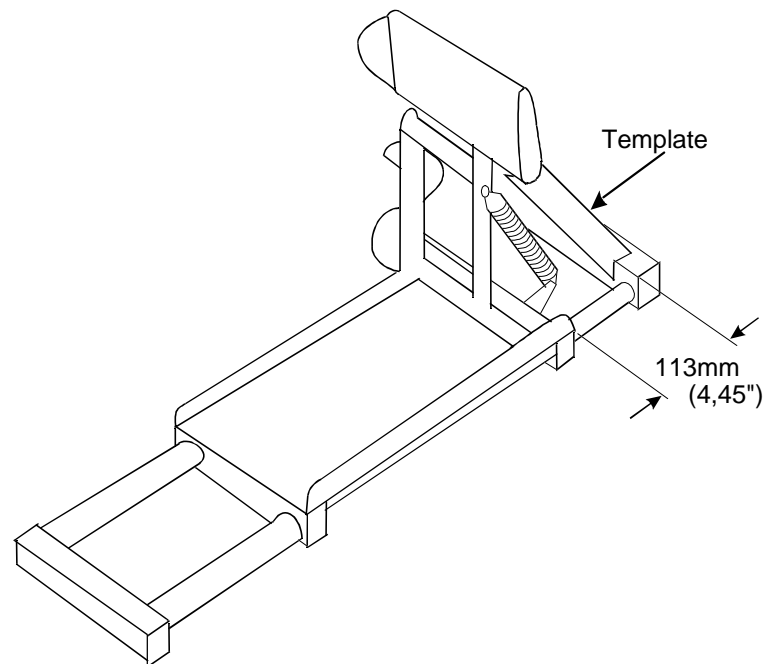

Fig. 1 Pedal center position alignment
- I.1 Check correct rudder pedal centering alignment using the procedure and template as shown in figures 1&2.